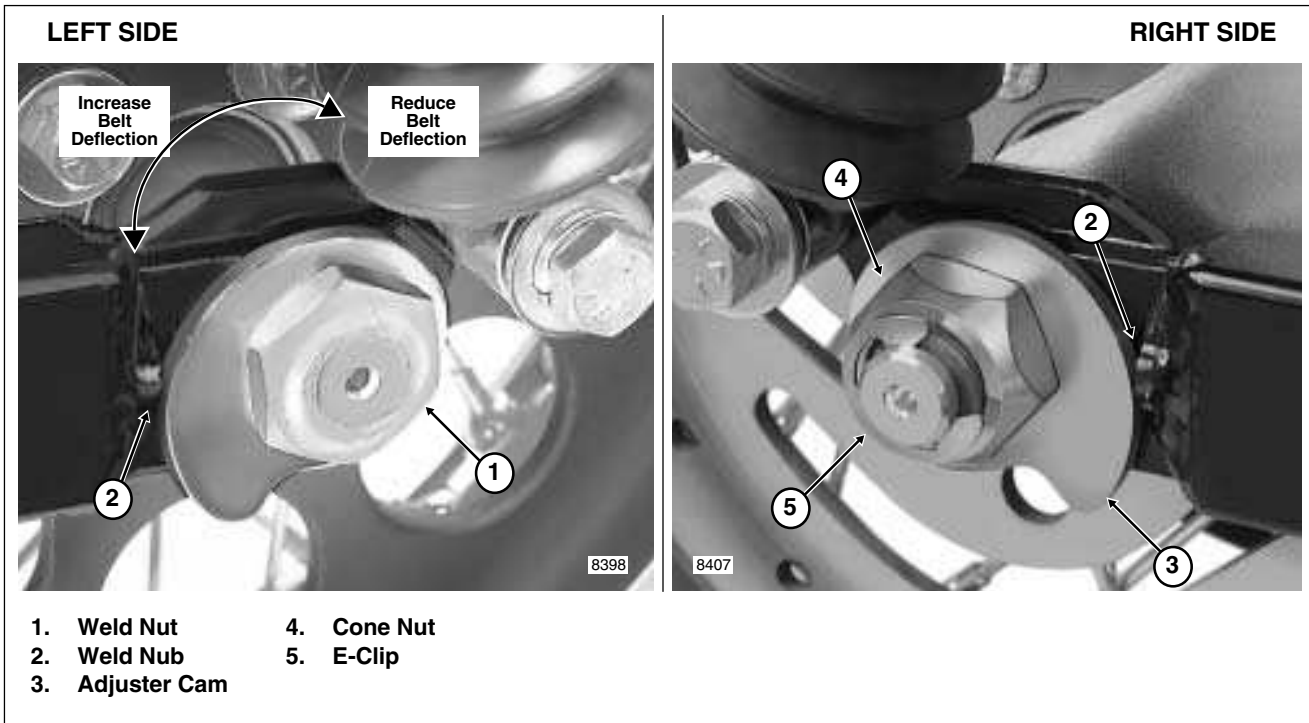

Figure 2-15. Move Rear Wheel Forward Until Adjuster Cams Just Contact Weld Nubs
- c. Verify that adjuster cam just contacts weld nub on both sides of rear swingarm. If necessary, push wheel forward slightly to achieve the desired result. Snug the cone nut to 15-20 ft-lbs (20-27 Nm). See Figure 2-15.
- b. Push wheel forward slightly so that adjuster cam just contacts weld nub on both sides of rear swing-arm. See Figure 2-15.